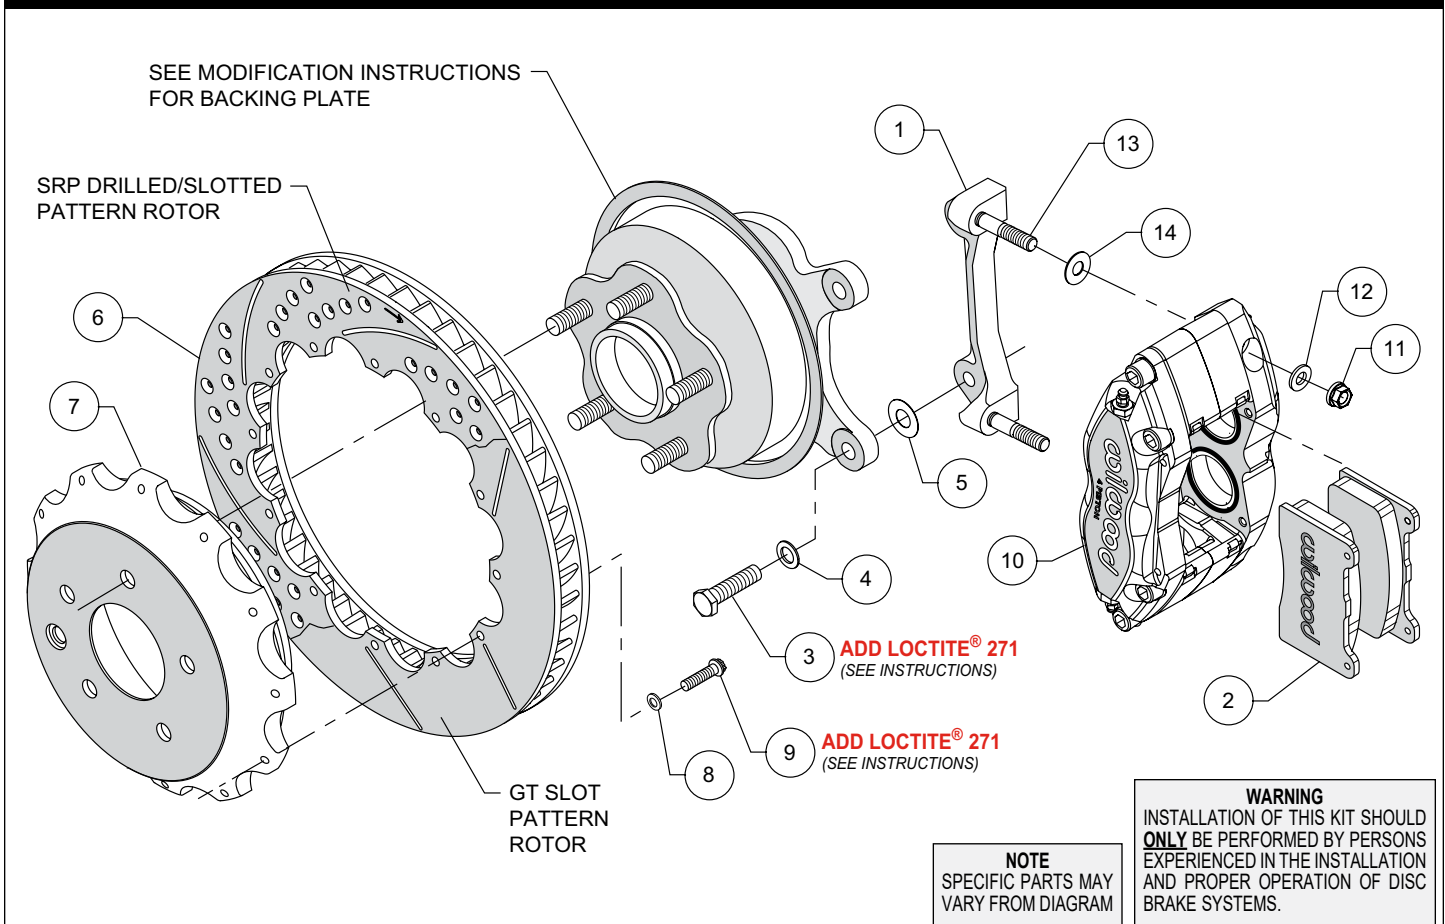
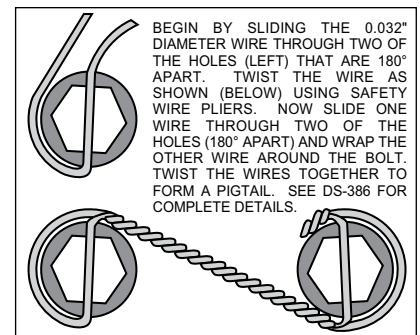

Figure 1. Typical Installation Configuration
Figure 3. Safety Wire Diagram
- The caliper mount bracket assembly (1) should be installed first with clean, dry threads on the mounting bolts. Install the bracket from the rear side of the hub by sliding bolt (3) through washer (4), and through the OEM caliper mounting bracket ears, then through shim washer (5) and into the bracket (1). The bracket must tighten squarely against the inboard side of the caliper mount bosses on the upright. Inspect for interference from casting irregularities, machining ridges, burrs, etc. Use one thin shim (5) between the bracket and upright during initial trial fitting. Later, after the caliper, pad, and rotor alignment has been checked, and any necessary shims have been put in place, the mounting bolts should be coated with red *Loctite*® 271 and torqued to 60 ft-lbs.
- Assemble the rotor (6) to the hat (7) with the bolts (9) and washers (8) as indicated in the configuration pictured in Figure 1. Apply red *Loctite*® 271 to the bolt threads and torque to 140 **in-lb** using a criss-cross pattern. For an added measure of security, the bolts may be safety wired using standard 0.032 inch diameter stainless steel safety wire as shown in Figure 3. Please refer to Wilwood's data sheet DS-386 (available at www.wilwood.com/Pdf/DataSheets/ds386.pdf) for complete safety wire installation instructions.
- Install one shim (14) over each stud (13) on the radial mount bracket (1). Slide the caliper (10) in place over the studs and rotor and install the washer (12) and lock nut (11) to hold the caliper in place. Snug the lock nuts (11) and check that the rotor (6) is centered in the caliper (10). Add or subtract .015" shims (5) as necessary between the caliper mount bracket (1) and the caliper mount bosses on the upright assembly to center the caliper.
- Remove the quick-clip pad retainer from the caliper. Slide the brake pads (2) into place. They should install easily without interference. Check that the outside radius of the brake pad is aligned with the outside diameter radius of the rotor face. Add or subtract shims (14) between the caliper and mount bracket to gain the proper alignment. Reinstall the quick-clip pad retainer.
- Once all clearances have been checked, remove the wheel, caliper, hat, and rotor from the axle flange. Secure the caliper mounting bracket (1) to the OEM caliper mounting ears using red *Loctite*® 271. Torque the bolts to 60 ft-lbs. Reinstall the hat and rotor assembly and again use several lug nuts to hold it in place. Reinstall the caliper and torque the caliper nuts (11) to 30 ft-lbs.